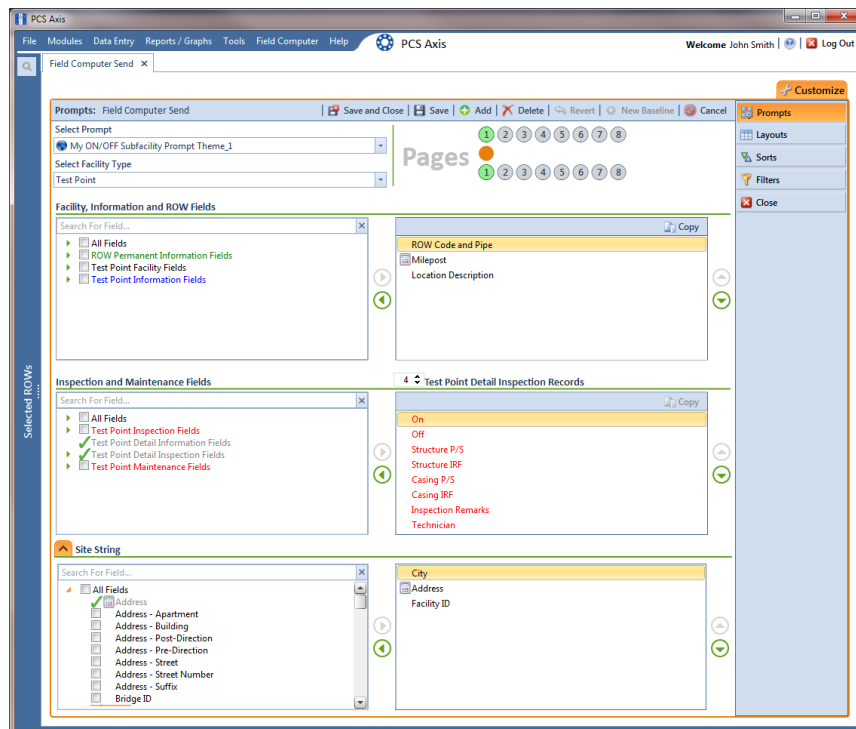

Figure 13-37. Site String
- a Click the  **Site String** tab to open the *Site String* pane (Figure 13-37).